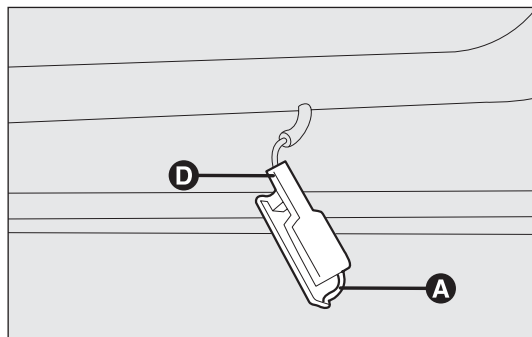

fig. 186
PUDDLE LIGHTS fig. 186
- ☐ remove the light by pressing clip A-fig. 186 with a screwdriver;
- refit the light by first inserting side D-fig. 186 and then pressing the other side until you hear the clip lock into place.